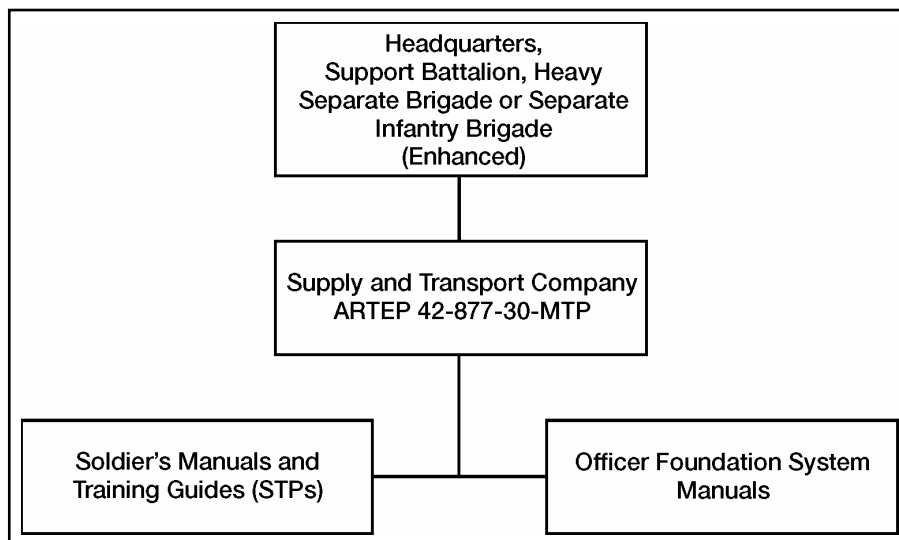

Figure 1-1. MTP Echelon Relationship Diagram
- d. The officer foundation system manuals for company grade officers. Figure 1-1 illustrates the relationship of these supporting publications.